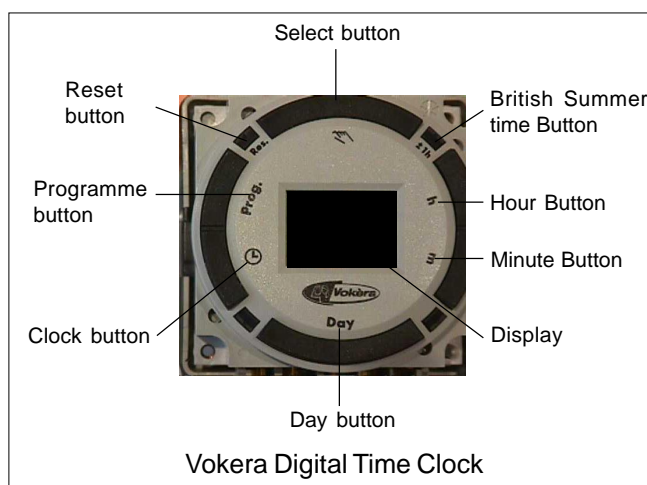

Fig. 2
- Press and hold the button (see fig 2).